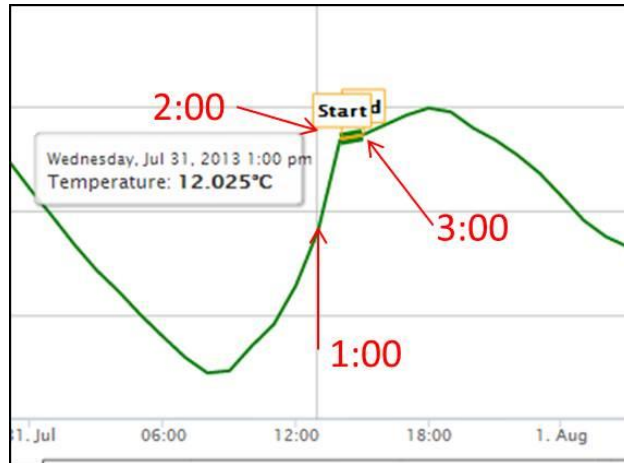

Figure 12. The “hourly variation greater than expected” anomaly occurred from 1:00 to 2:00, but the following hour is flagged by the QA tool.
In the example below (Figure 11) an anomaly occurred between 1:00 and 2:00, the “hourly variation (was) greater than expected”. Notice however, that the time period being flagged is NOT 1:00 to 2:00, but rather 2:00 to 3:00 (Figure 12) which has a very small hourly variation. Keep this ‘one hour display lag’ in mind when performing QA.
5. Click start/end times/dates to adjust them to cover the appropriate time period of the anomaly (Figure 12).